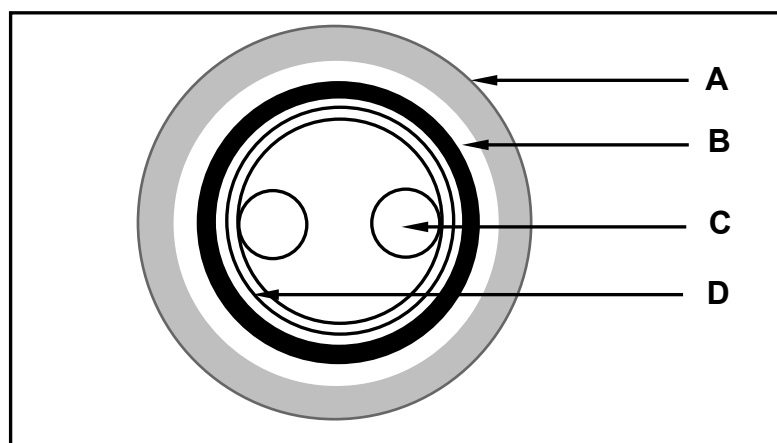

FIGURE 4.5
- 4.5 FIGURE 4.5 below shows a cross-sectional view of a component used in a low-pressure geyser.